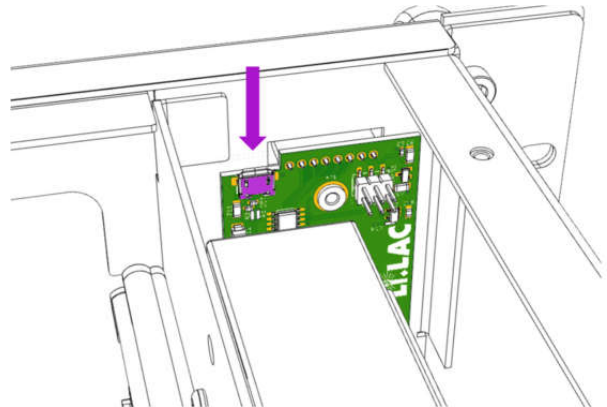

Fig. 8
4. Plug in the micro-USB cable (Fig. 8).